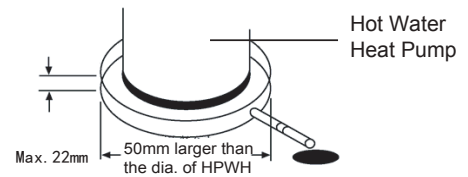

Fig.5-2
- For indoor installation, a water tray as suggested in Fig 5-2 is recommended to prevent leakage due to blockage during draining.